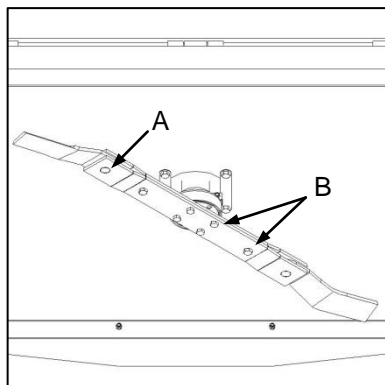
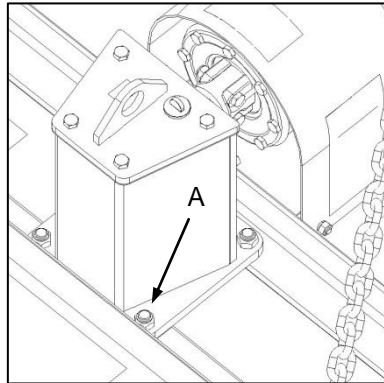
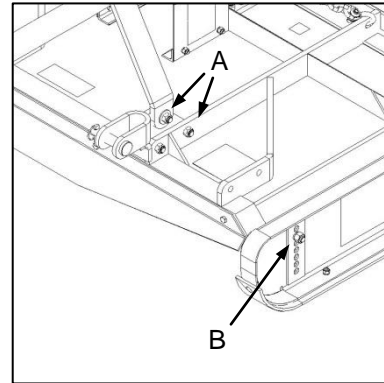

Fig. 1
Fig. 3
Fig. 4
- ✔ Check all fasteners for tightness. This includes special attention to safety-critical fasteners such as blade bolts and nuts (Fig. 1-A / 2-A), cutting gear mounting bolts (Fig. 1-B / 2-B), gearbox mounting bolts (Fig. 3-A), topmast mounting and pivot bolts (Fig. 4-A) and side panel retaining bolts (Fig. 4-B).
- ✔ Verseker dat alle hegstukke vas is. Dit sluit in spesiale aandag aan veiligheidskritieke hegstukke soos lemboute en -moere (Fig. 1-A / 2-A), snymeganisme monterboute (Fig. 1-B / 2-B), ratkas monterboute (Fig. 3-A), topmasmonter- en -spilboute (Fig. 4-A) en sypaneel monterboute (Fig. 4-B).
- ✔ Release the pre-load on the friction clutch plates by loosening the nuts (Fig. 4-A) until the compression spring is just free to rotate by hand. Do not remove the nuts completely.
- ✔ Ontspan die voorlas op die wrywingkoppelaarplate deur die moere los te draai (Fig. 4-A) totdat die drukveer net vry genoeg is om met die hand te draai. Moet die moere nie heeltemal verwyder nie.